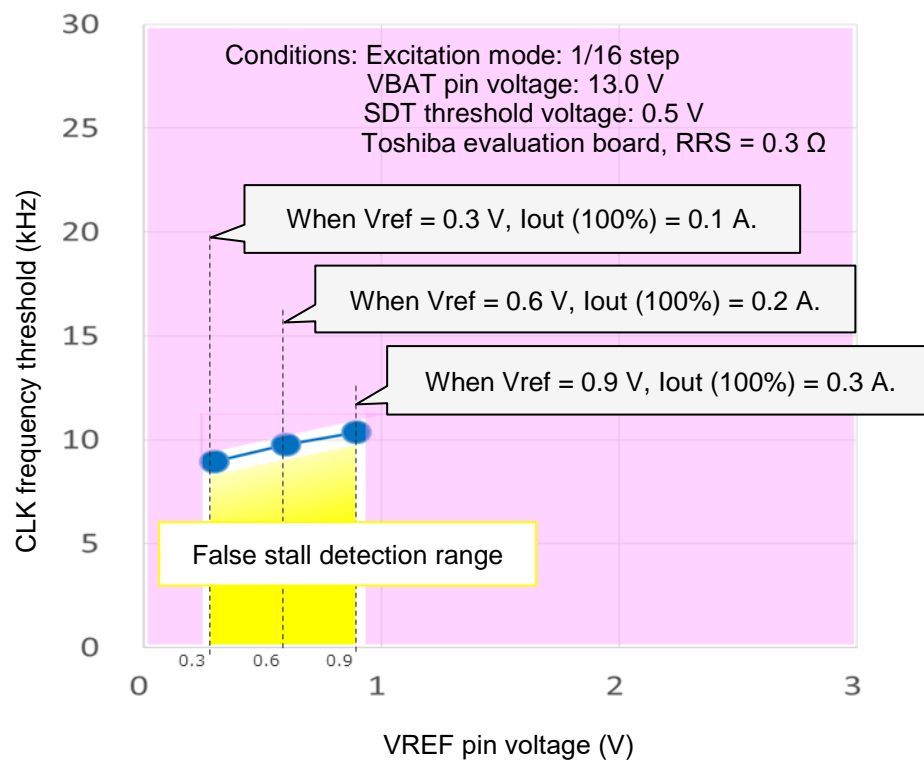

Figure 9. VREF pin voltage vs. CLK frequency threshold (for reference)
- As shown in Figure 9, the result is as follows: